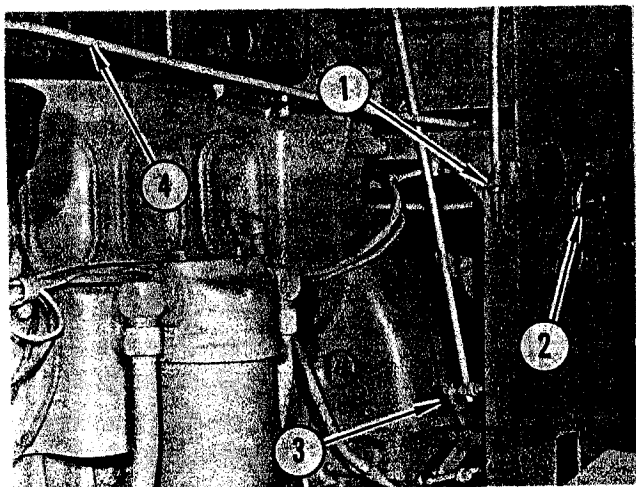

FIGURE 2. HOOD & LINKAGE REMOVAL
Refer to Figure 2. Loosen nuts on hook bolts (1) at front corners of hood sufficiently to permit releasing hooks from hood. Lower hood to ground.